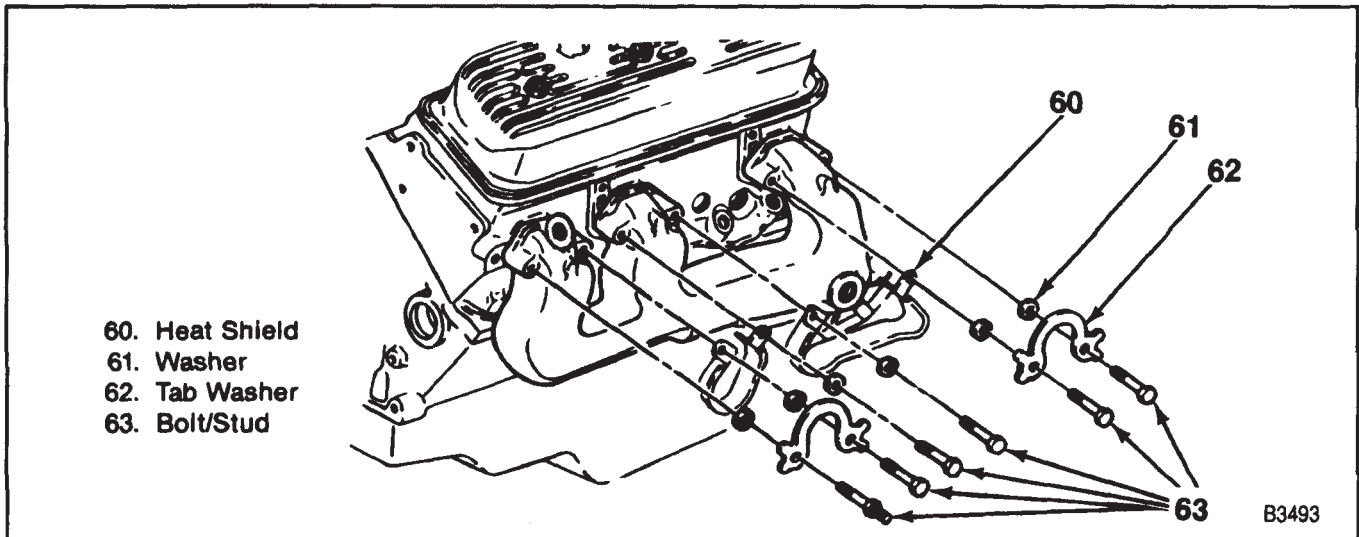

Figure 21—Exhaust Manifold
**↔** Remove or Disconnect (Figure 21)
**↔** Install or Connect (Figure 21)